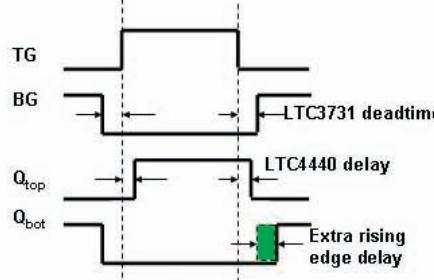

Figure 7: Extra rising edge delay is needed for the bottom gate to account for the delay induced by the external LTC4440 FET driver at the top gate
The gate timing of the top FET and bottom FET in a synchronous buck converter is critical. As shown in **Figure 7**, the external driver LTC4440 introduces a propagation delay from the LTC3731's top driver output (TG) to the top FET gate signal Q_{top} :